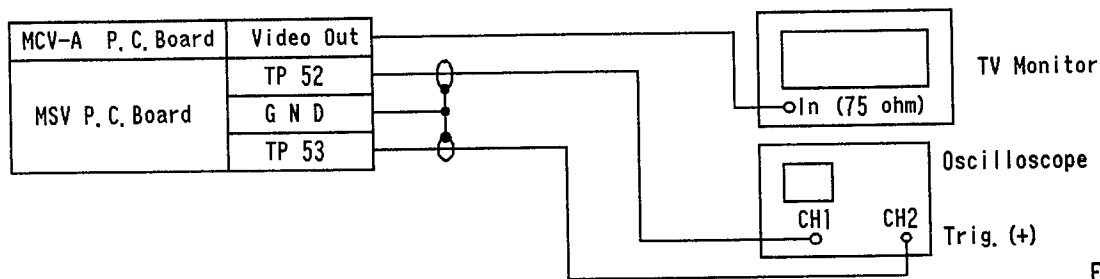

Fig. 8-4
1. Connect the equipment as shown in Fig. 8-4.